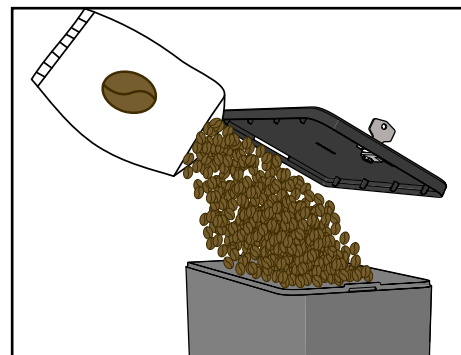

Figure 57.
5. Fill the canister with beans (see Figure 57).